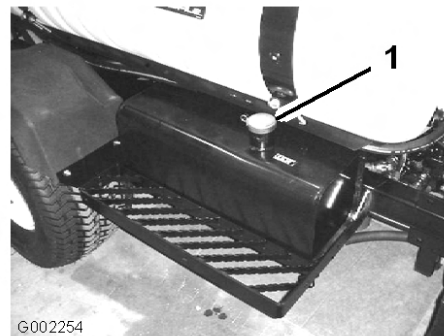

Figure 57
3. Clean the area around the hydraulic oil tank cap and remove it (Figure 57).